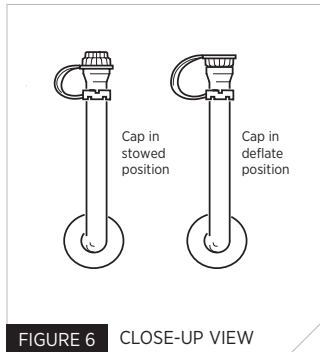

FIGURE 6 CLOSE-UP VIEW
3. Ensure the oral-inflation dust cap is in the stowed position (Fig. 6).
4. For the MD2016 only - Ensure the bobbin is valid. The PFD, or bobbin, must have been purchased within the last three (3) years. If the purchase date is unknown, check the date printed on the bobbin and replace if older than three (3) years (see Re-arming Your PFD (MD2016) on page 9).
- Oral-inflation dust cap is in the stowed position (Fig. 6).
Remove the dust cap from the end of the oral tube and blow into the tube until the Inflatable PFD is fully inflated. Place the oral inflator dust cap back in the stowed position (Fig. 6).
2. Gently squeeze the Inflatable PFD until all air or gas has been expelled. To avoid damage, do not wring or twist the Inflatable PFD. Put the inflation tube dust cap back in its stowed position on the oral inflation tube (Fig. 6).